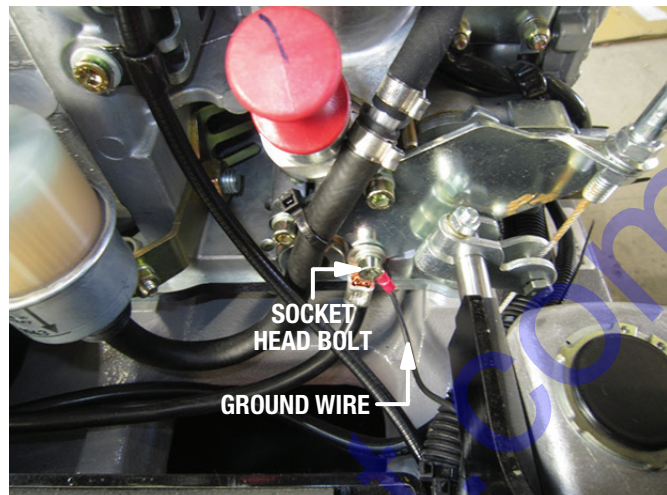

Figure 28. Ground Wire Connection (MVH508DZ)
- Secure the sensor ground wire to the frame with the existing socket head bolt as shown in Figure 28.